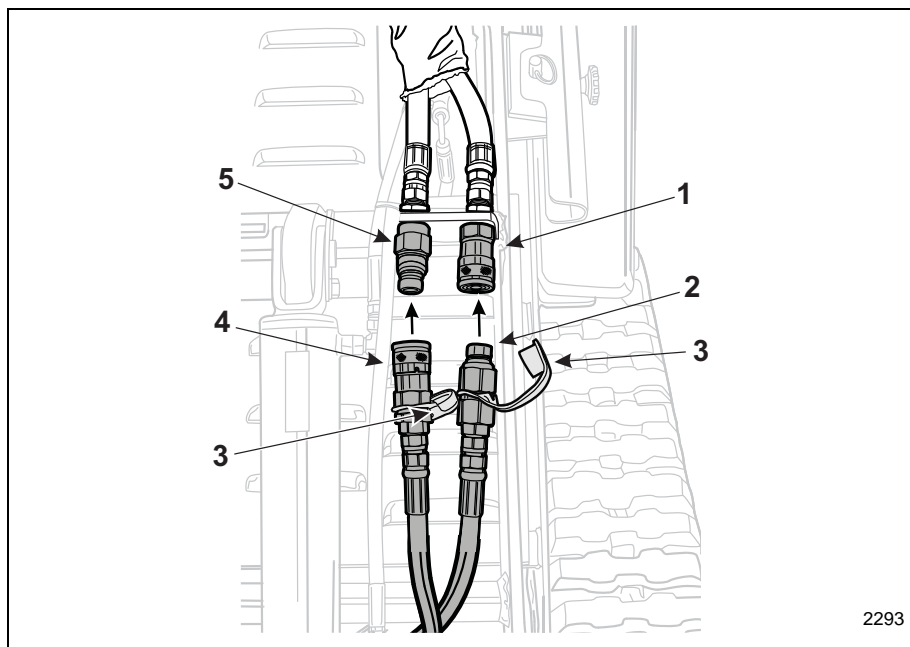

Figure 3-36 Auxiliary Hydraulic Quick Connects
- b. Remove the protective covers (Items 4, **Figure 3-36**) from the attachment quick connectors.
- c. Wipe off the end of each of the connectors (Items 1, 2, 3, 4, **Figure 3-36**) to remove any dirt or debris.
- d. Insert the attachments' male coupling (Item 3, **Figure 3-36**) into the female bulkhead quick connect coupling (Item 2, **Figure 3-36**) on the machine and push until the connector locks into position.
- e. Repeat the above process to connect the attachments' female quick connect (Item 5, **Figure 3-36**) on the other hose to the mae bulkhead connector (Item 1, **Figure 3-36**) on the machine.
NOTICE: If you want to reverse the operation of the attachment, move the AUXILIARY/OPERATOR PRESENCE lever (Item 1, Figure 3-36) to the REVERSE position. The control lever will remain in the REVERSE position detent until it is moved to the NEUTRAL position.